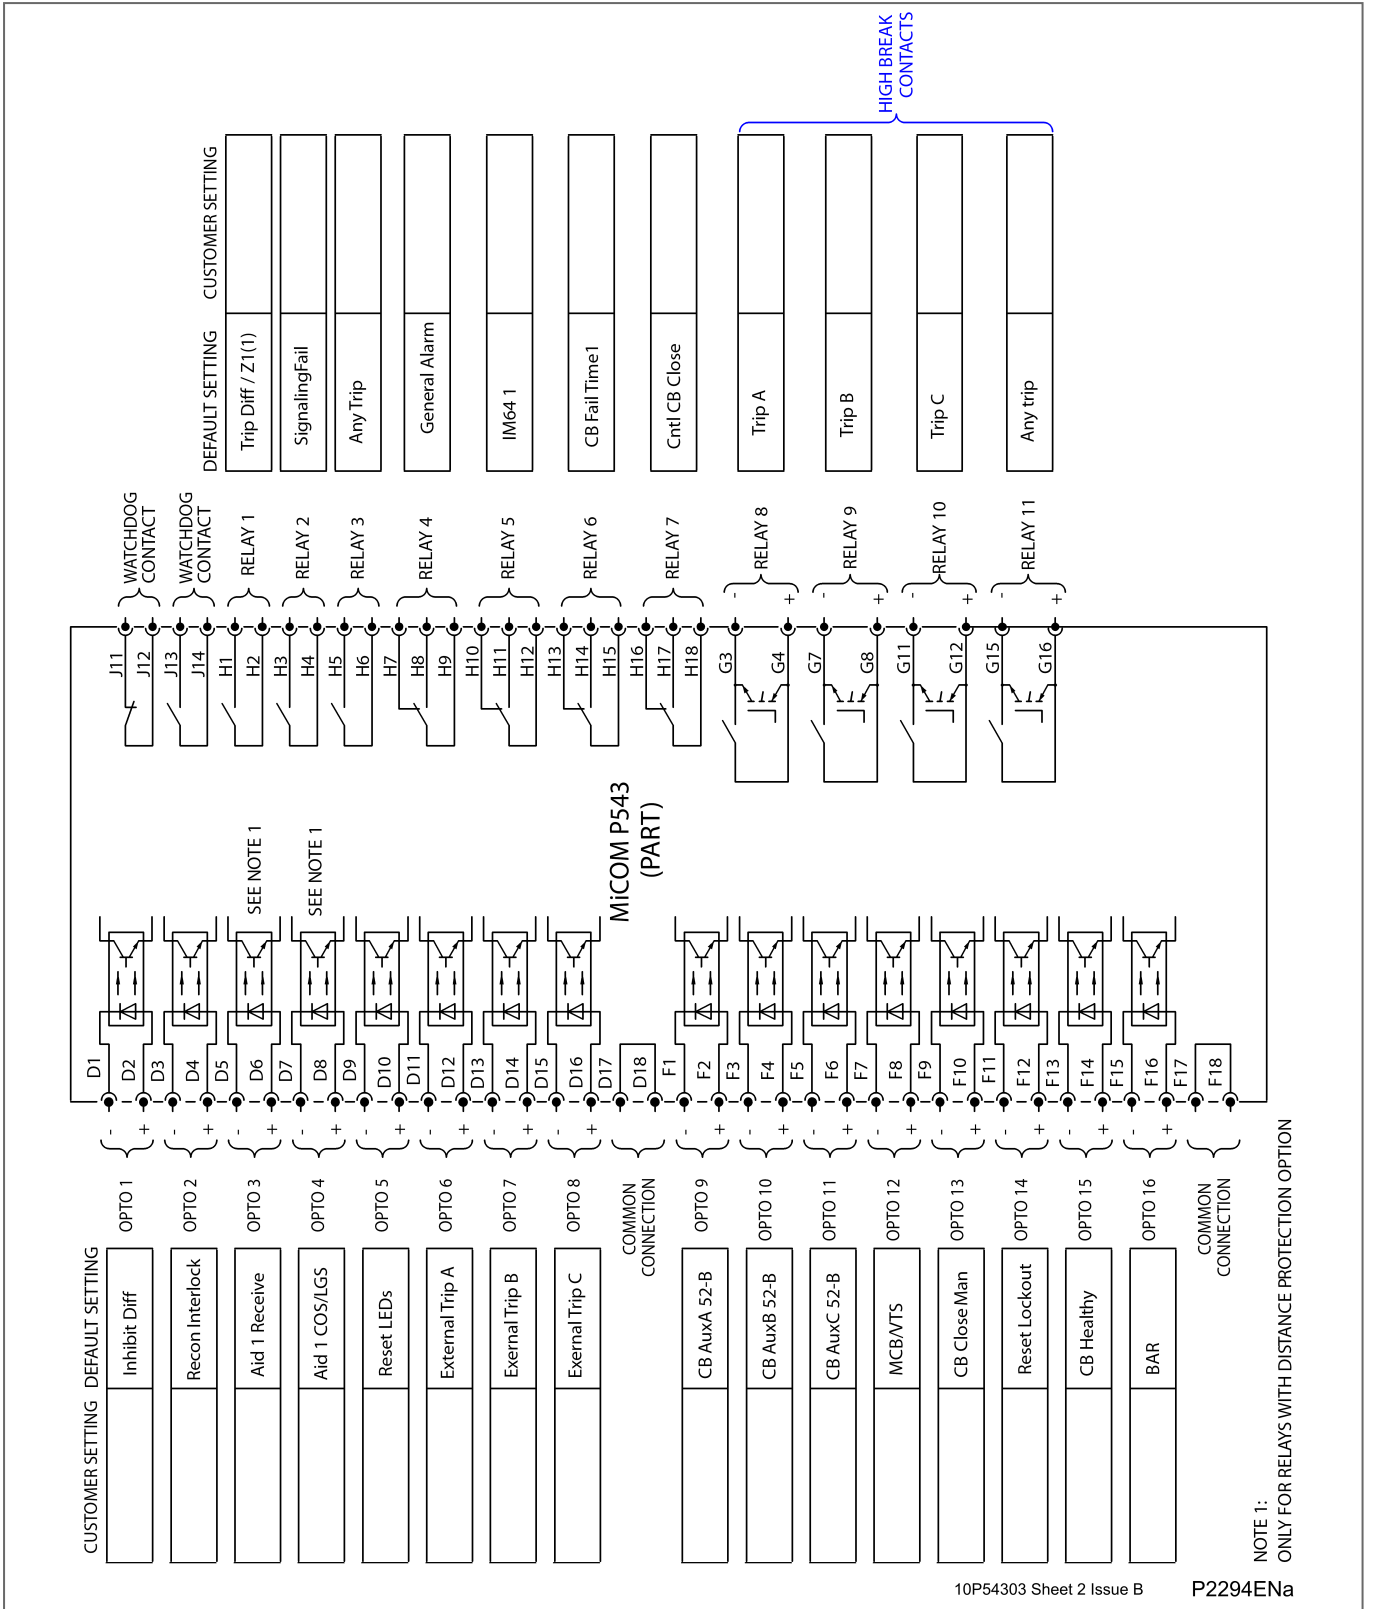

Figure 6 - P543 – 16 inputs/7 standard and 4 high-break outputs default mapping
- Figure 6 - P543 – 16 inputs/7 standard and 4 high-break outputs default mapping